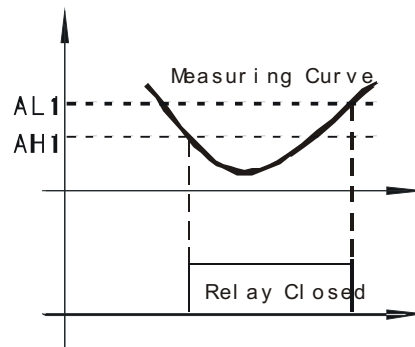

Figure 5
c) Set AH1<AL1 (or AH2<AL2): Normally used for lower limit alarm trigger. See Figure 5.